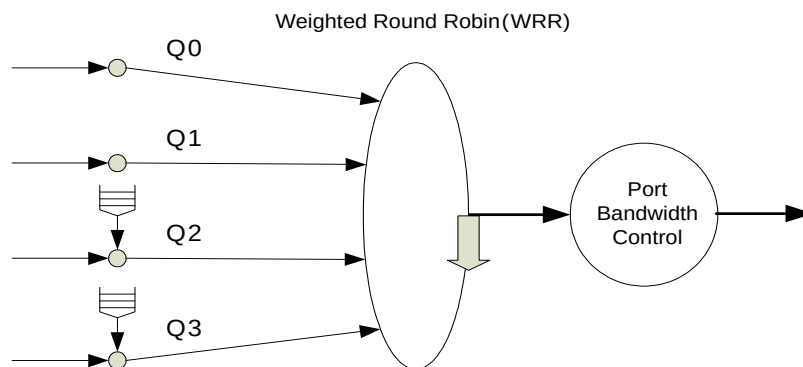

Figure 14. Packet-Scheduling Diagram
- Type I leaky bucket, which specifies the average rate of one queue (see Figure 14; only Q2 and Q3 have leaky bucket, Q0 and Q1 do not). The queue rate can be configured from 0kbps to the line rate in steps of 64kbps
In addition, the RTL8305NBI-VB can select one of the two sets of packet-scheduling configurations according to the packet-scheduling mode. Figure 14 shows the RTL8305NBI-VB packet-scheduling diagram.